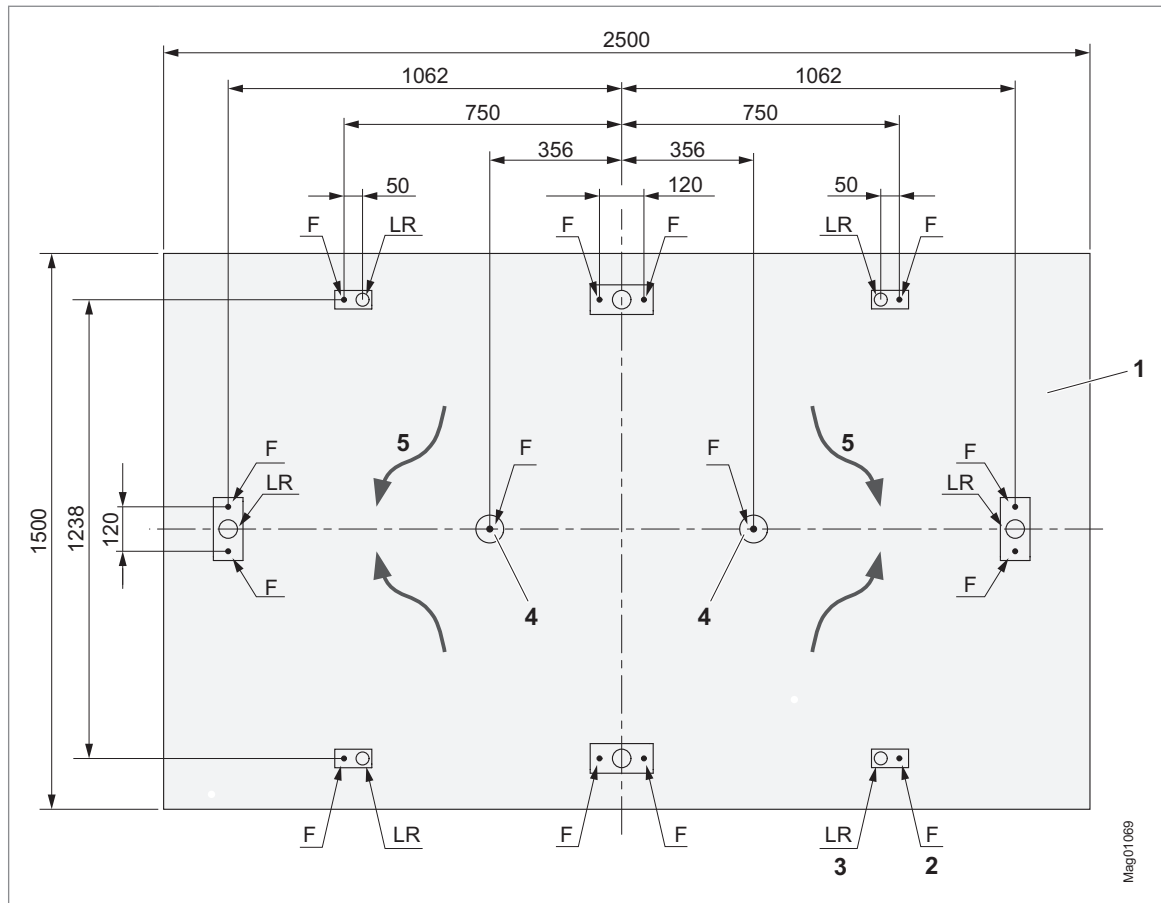
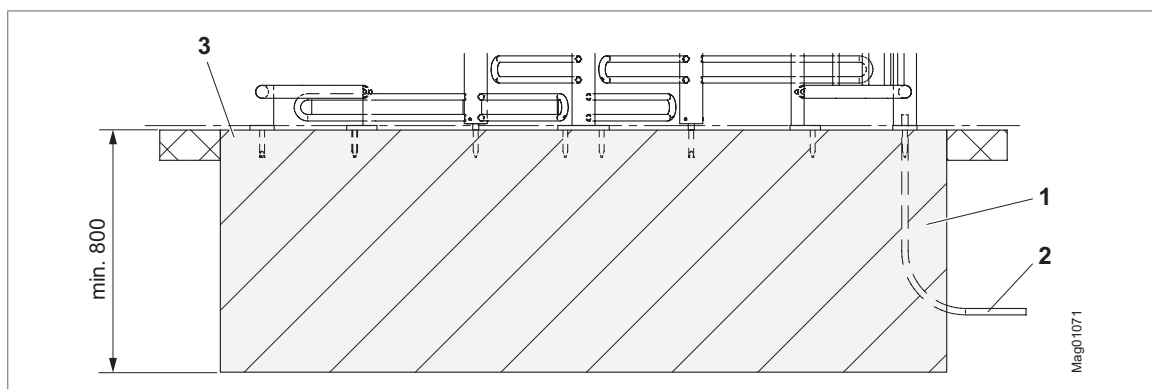

Fig. 30: Foundation and empty conduit plan for direct mounting MPT-353 – top view (dimensions in mm)
Fig. 31: Foundation and empty conduit plan for direct mounting MPT-353 – top view (dimensions in mm)
➤ Page 65, Fig. 30 and ➤ Page 66, Fig. 31.
↗ Page 65, Fig. 30 and ↗ Page 66, Fig. 31.
1. Mark holes for sleeve with inner thread. A drilling template is included in the scope of delivery. ↗ Page 65, Fig. 30.